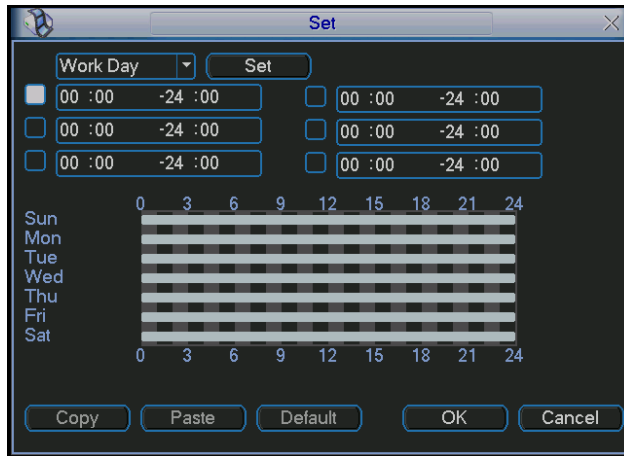
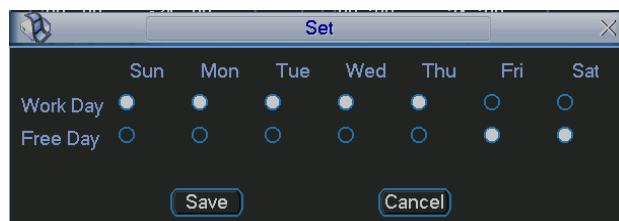

Figure 4-24
Figure 4-25
- Period: Click set button, you can see an interface is shown as in Figure 4-24. Here you can set for business day and non-business day. In Figure 4-24, click set button, you can see an interface is shown as in Figure 4-25. Here you can set your own setup for business day and non-business day.